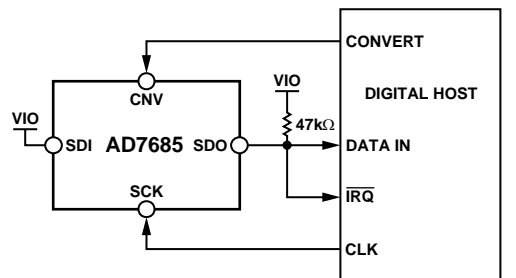
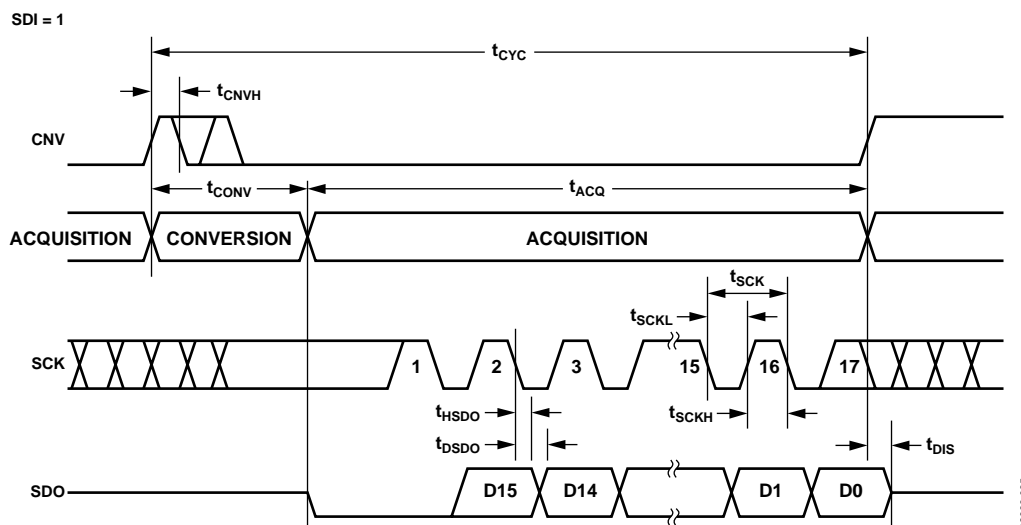
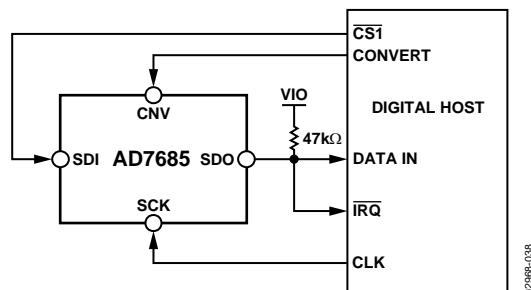
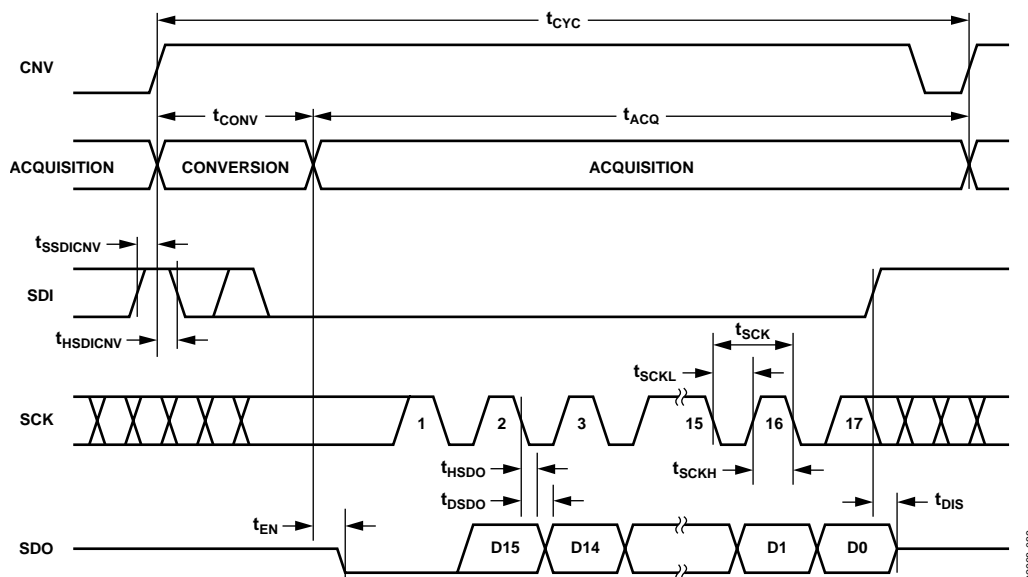

Figure 35. $\overline{\text{CS}}$ Mode 3-Wire with *BUSY* Indicator Connection Diagram (SDI High)
Figure 36. $\overline{\text{CS}}$ Mode 3-Wire with *BUSY* Indicator Serial Interface Timing (SDI High)
Figure 39. $\overline{\text{CS}}$ Mode 4-Wire with *BUSY* Indicator Connection Diagram
Figure 40. $\overline{\text{CS}}$ Mode 4-Wire with *BUSY* Indicator Serial Interface Timing
- In the $\overline{\text{CS}}$ mode, if CNV or SDI is low when the ADC conversion ends (Figure 36 and Figure 40).
The connection diagram is shown in Figure 35 and the corresponding timing is given in Figure 36.
The connection diagram is shown in Figure 39 and the corresponding timing is given in Figure 40.